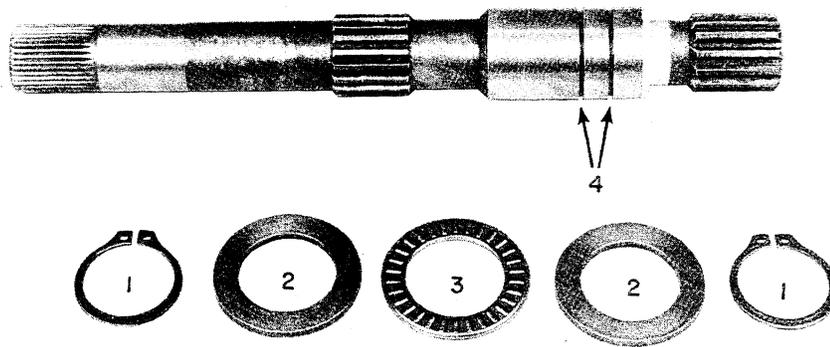

FIGURE 33
19. Figure 33 shows the pump shaft. The thrust bearing (3) is held in by two thrust races (2) and snap rings (1). The snap ring grooves are shown at (4) on the pump shaft.
5. To install the pump shaft (4), Figure 33, first install the thrust bearing assembly as shown in Figure 33, which consists of a snap ring, race, bearing, race, and snap ring.